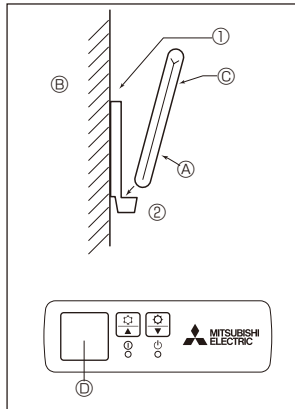
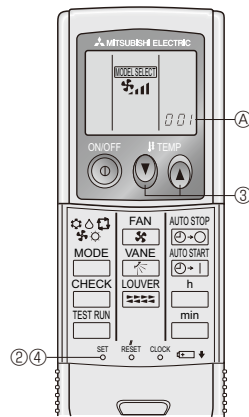

Fig. 6-5
Fig. 6-6
2) Installation method (Fig. 6-5)
① Attach the remote controller holder to the desired location using 2 tapping screws.
② Place the lower end of the controller into the holder.
3) Setting (Fig. 6-6)
① Insert batteries.
② Press the SET button with something sharp at the end.